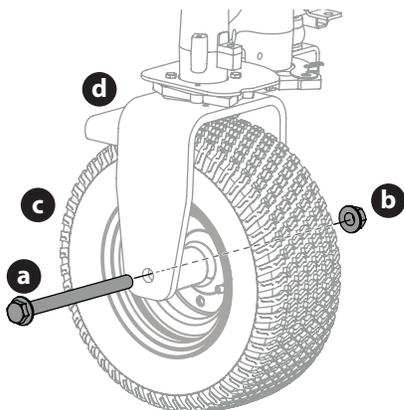

Figure 48
1. Remove the hex screw (a) and flange lock nut (b) that secures the front wheel (c) to the yoke assembly (d) (Figure 48).
2. To re-install or replace the front tire, reverse Step 1. Tighten the hardware to 75-90 ft-lbs (101-122 N-m) (Figure 48).